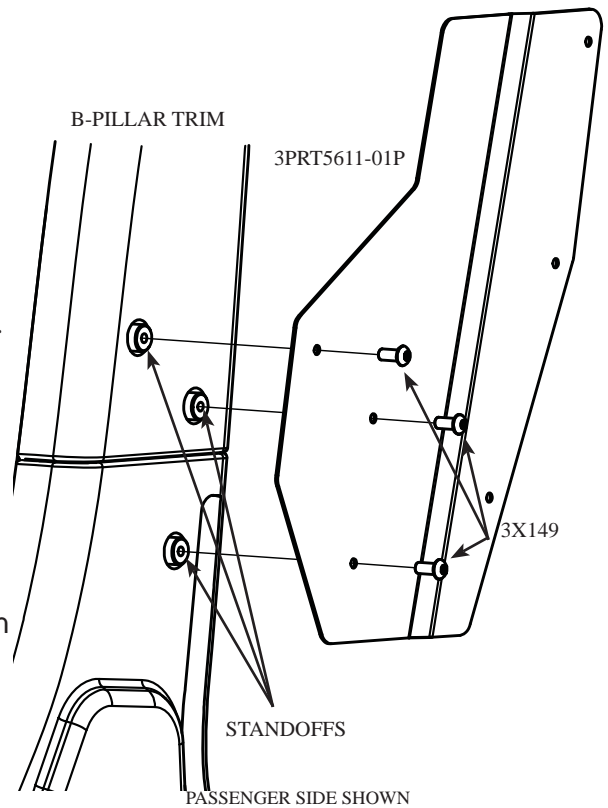

Fig. 11
- A. Attach the passenger-side mounting plate (3PRT5611-02P) using the supplied 5/16-18 x 3/4" button head screws (3X149) to the standoff's protruding through the B-pillar trim (See Fig. 11). Hand tighten only.